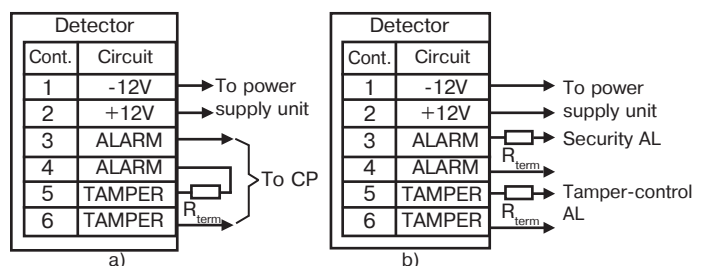

Figure 3
- Fulfill connections in accordance with Figure 3 a) for hooking up to one AL or Figure 3 b) with separate AL of tamper control.